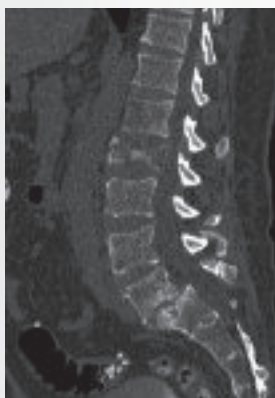

Figure 1: CT Scan
- A 56-year-old male with a squamous cell tumor in L2, collapse of the L2 vertebral body and accompanying severe stenosis at the spinal canal (Figure 1)